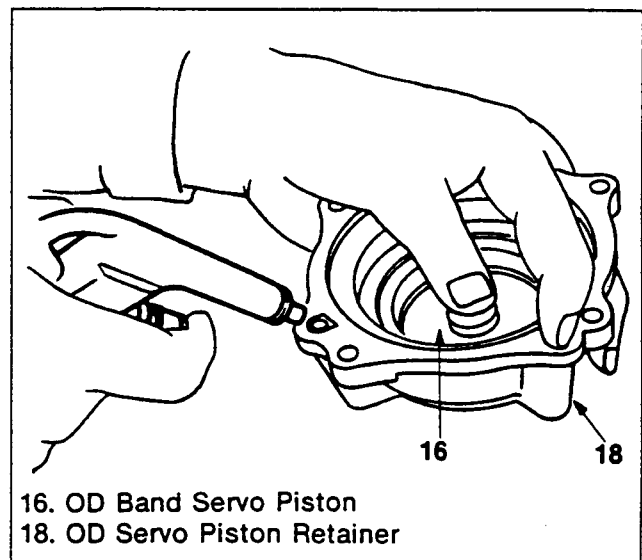

Figure 201. O/D Band Servo Piston Removal
O/D Band Servo Piston (Figures 201 and 202)
1. Using your fingers, close the oil hole of the O/D servo piston retainer and the center hole of the O/D band servo piston. By supplying 294 – 392 kPa (42 – 56 psi) air from the other oil hole of the O/D servo piston retainer, separate the O/D band servo piston from the O/D servo piston retainer (figure 201).